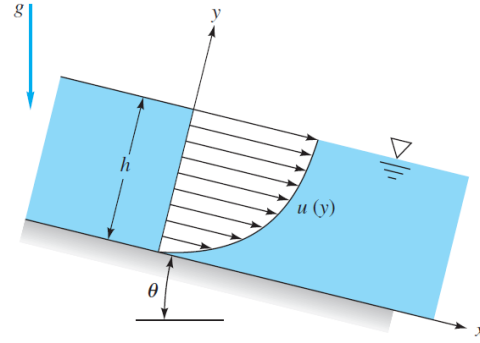

Fig. 3.10
- 3.10 A thin layer of liquid, draining from an inclined plane, as in Fig. 3.10, will have a laminar velocity profile $u \approx U_0(2y/h - y^2/h^2)$, where U_0 is the surface velocity. If the plane has width b into the paper, determine the volume rate of flow in the film. Suppose that $h = 13 \text{ mm}$ and the flow rate per meter of channel width is $5 \text{ L}/(\text{m}\cdot\text{min})$. Estimate U_0 in mm/s .